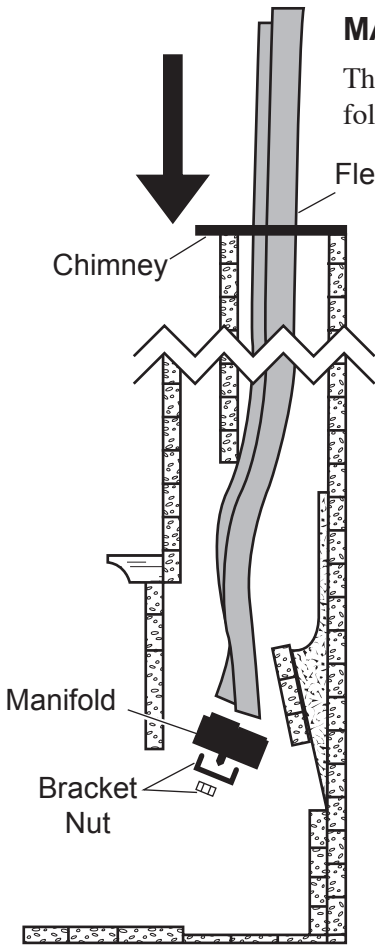

Figure 10 - Placing Manifold Into Fireplace
3. Route flex vent through chimney from above. *See Figure 10*. Leave an extra 3" (914mm) at the top.